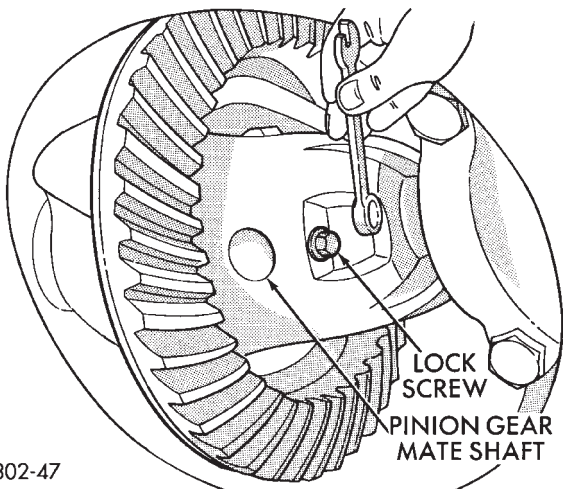
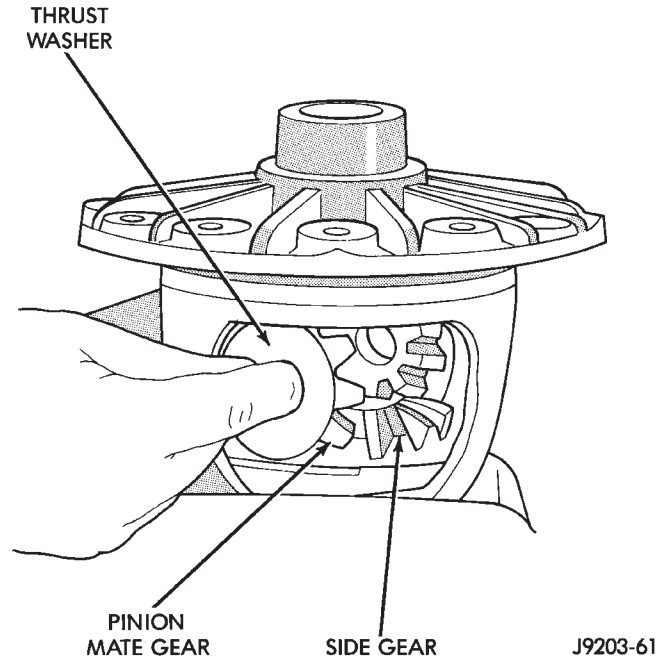

Fig. 36 Pinion Gear Mate Shaft Lock Screw
Fig. 37 Pinion Mate Gear Removal
- (1) Remove pinion gear mate shaft lock screw (Fig. 36).
- (2) Remove pinion gear mate shaft.
- (3) Rotate the differential side gears and remove the pinion mate gears and thrust washers (Fig. 37).